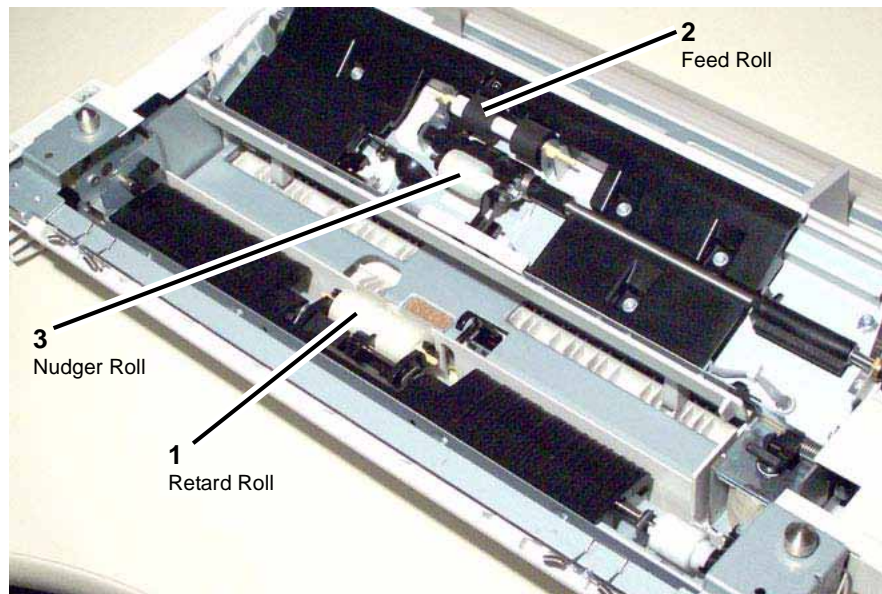

Figure 1 Retard, Feed, and Nudger Rolls
2. Remove each roll by squeezing the roll's shaft at both ends (with the thumb and forefinger of one hand) and lifting the roll up and out of the Tray 5 / Bypass. Figure 1